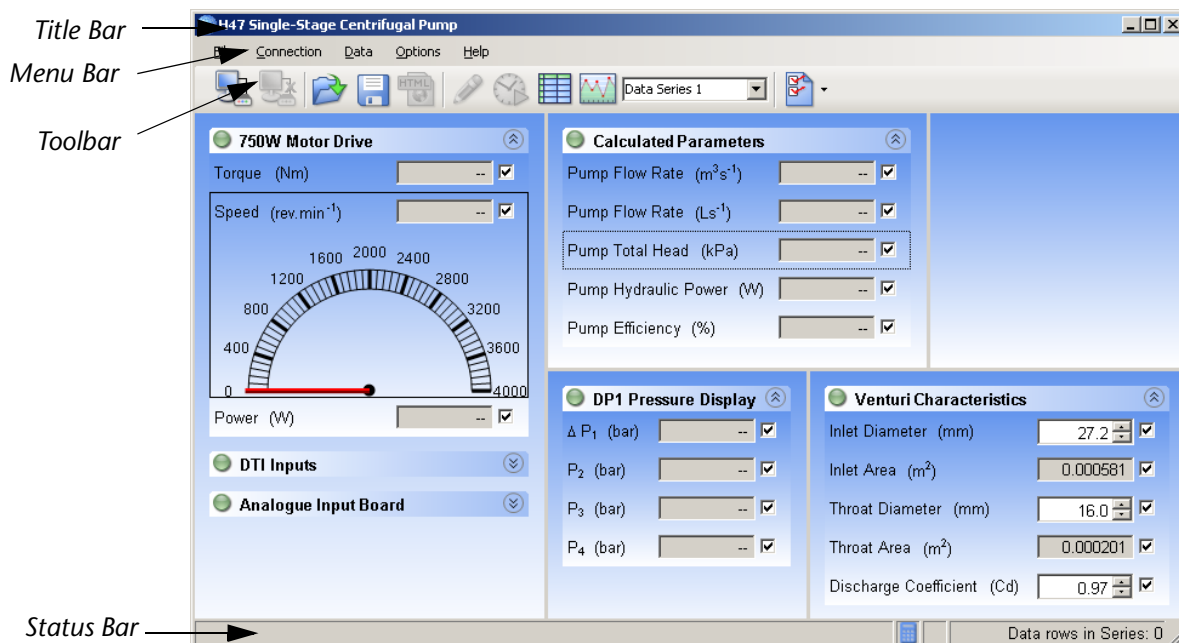

Figure 17 A Typical VDAS Window (H47 Form Layout Shown)
4. After a few seconds, the VDAS Window will appear (see Figure 17).